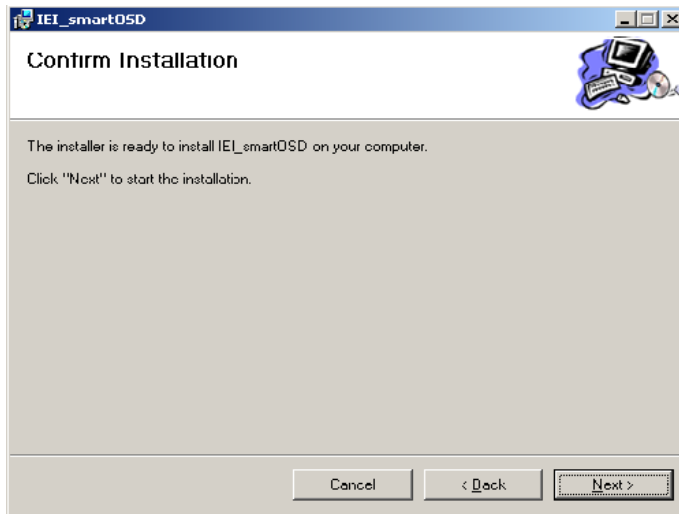

**Figure C-3: smartOSD Folder Select Screen**
**Step 5:** The Folder Select screen in Figure C-3 appears.
**Step 6:** Select the installation folder in Figure C-3 shown above.